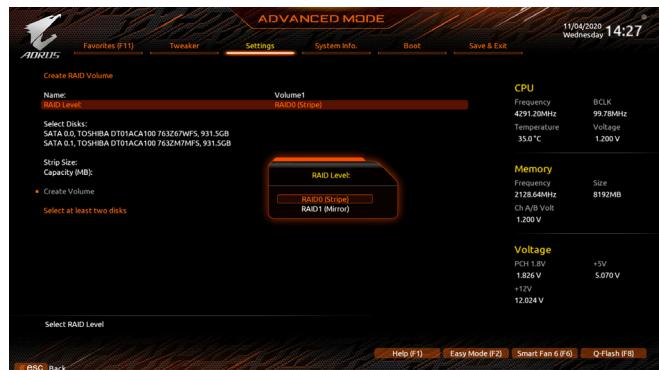

Figure 3
On the Intel(R) Rapid Storage Technology menu, press <Enter> on **Create RAID Volume** to enter the **Create RAID Volume** screen. Enter a volume name with 1~16 letters (letters cannot be special characters) under the **Name** item and press <Enter>. Then, select a RAID level (Figure 3). RAID levels supported include RAID 0, RAID 1, RAID 10, and RAID 5 (the selections available depend on the number of the hard drives being installed). Next, use the down arrow key to move to **Select Disks**.